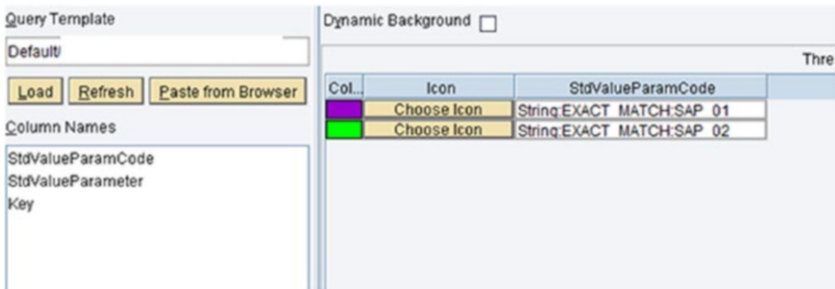

Figure 7-34. i5Grid Color Context
- *i5Grid Color Context:* The color context of the grid can be set. See Figure 7-34.
Once the Color context is configured as shown in Figure 7-34, the text of the row is displayed in the color against the conditions defined. See Figure 7-35.